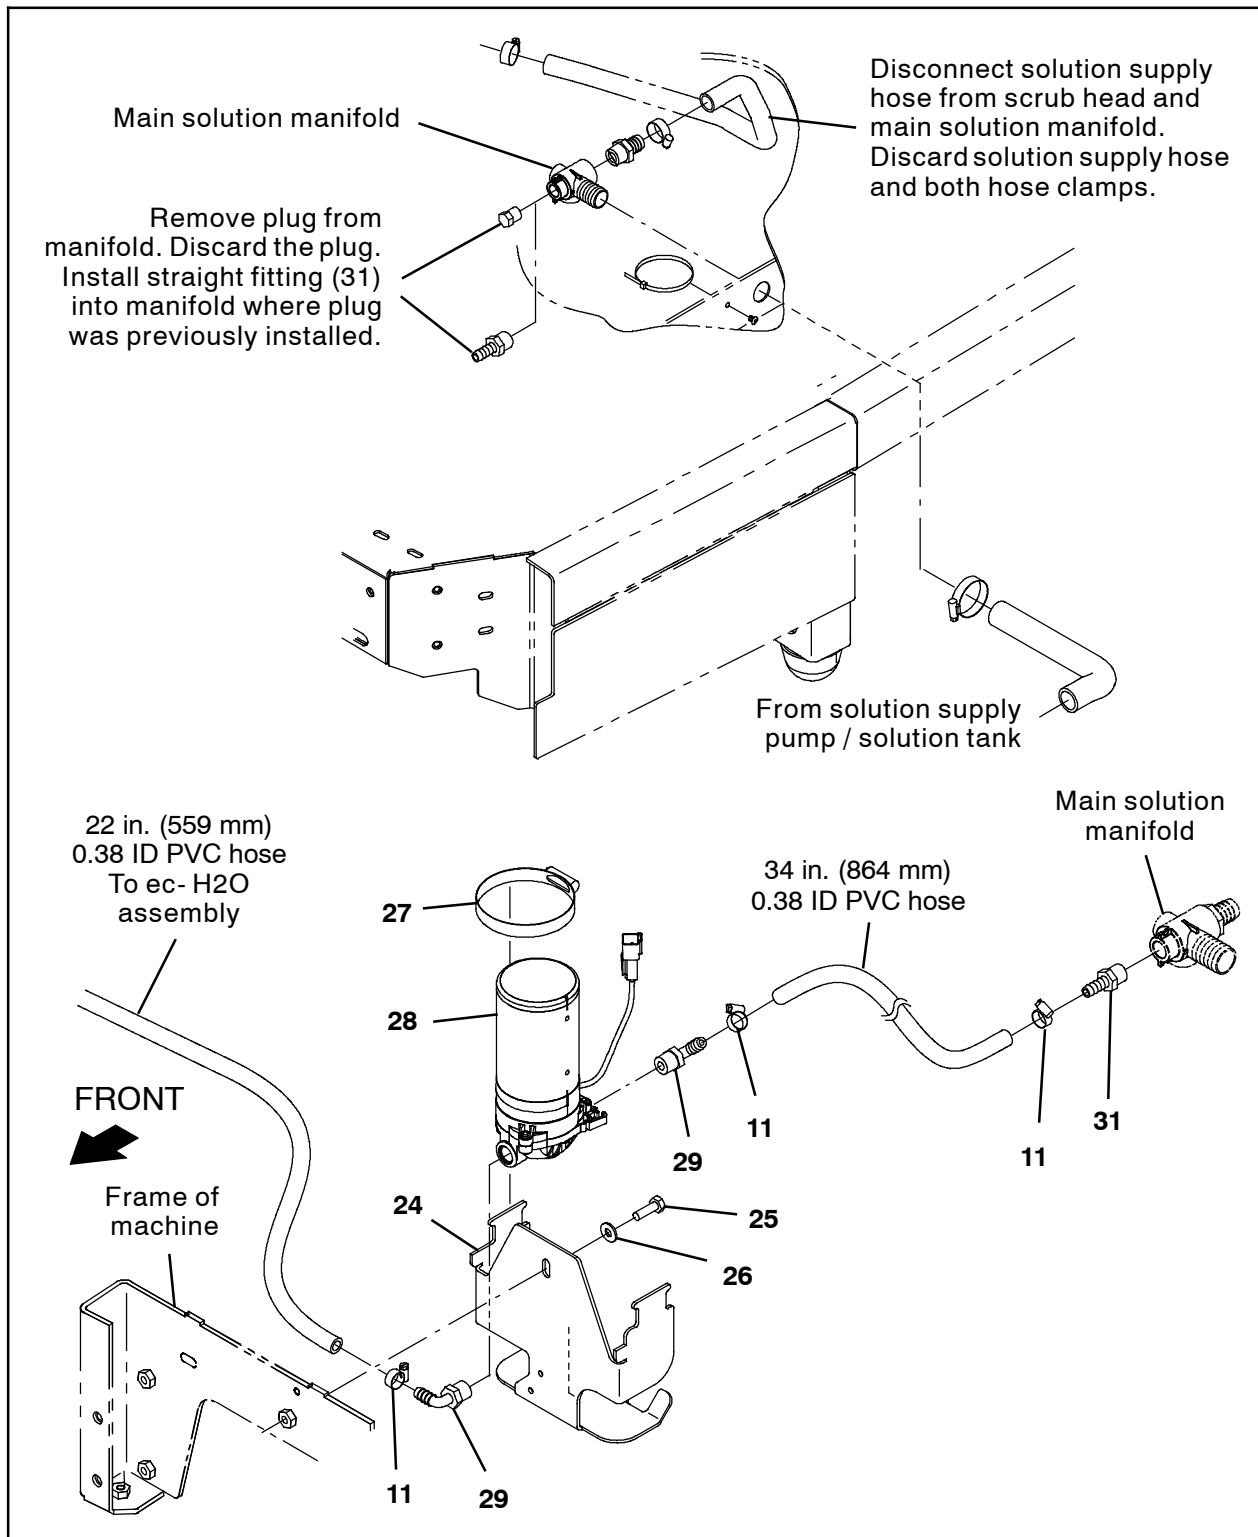

**FIG. 6**
18. Use one hose clamp (27) to connect a 34 in. (864 mm) 0.38 ID PVC hose to the ec- H2O pump (28) IN port. (Fig. 6 / Fig. 8)
23. Route the 34 in (864 mm) 0.38 ID PVC hose to the main solution manifold and use a hose clamp (31) to connect the PVC hose to the main solution manifold. (Fig. 10 / Fig. 11 / Fig. 6)